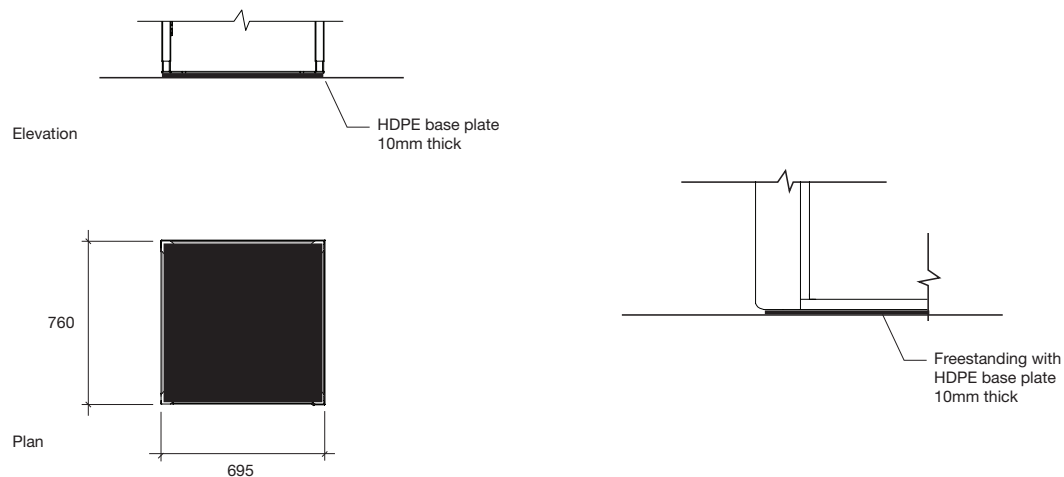

Fig. 2
2. The sensor is mounted on the underside of the roof. **Fig. 2**